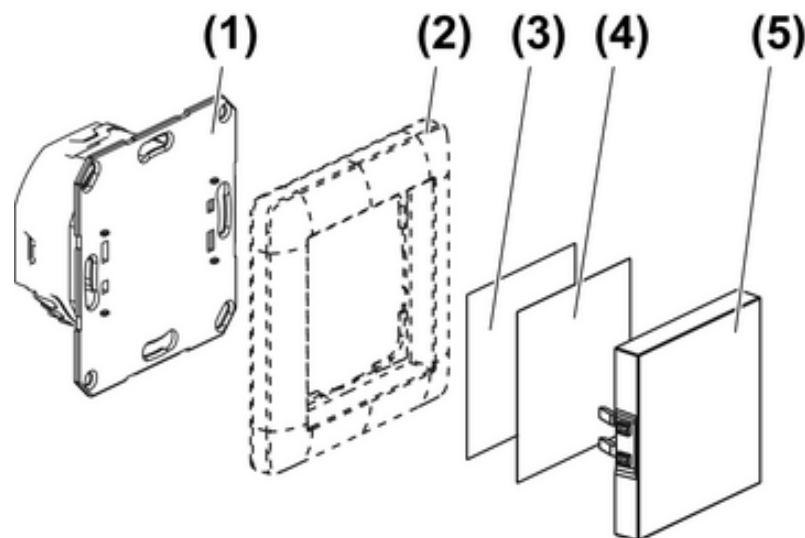
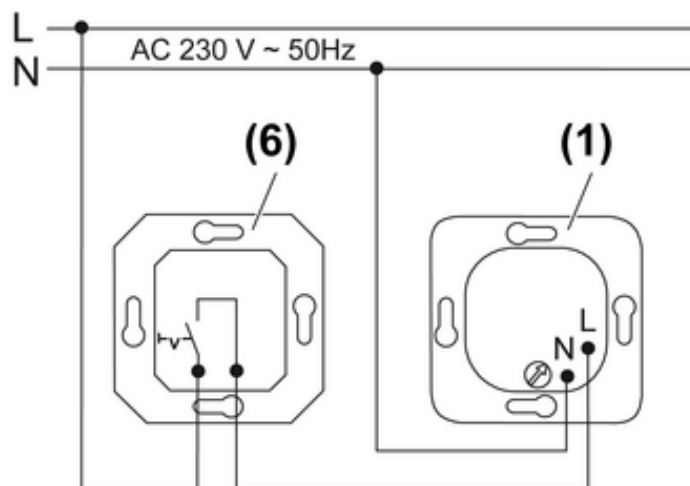

Figure 1
Figure 2: Connection example
(Figure 1)
(1) Concealed insert, luminaire
(6) Installation switch
- Connect the luminaire as shown in the connection example (Figure 2).
- Mount the concealed insert (1) in the appliance box . The terminals must be at the bottom.
- Complete the luminaire (Figure 1).